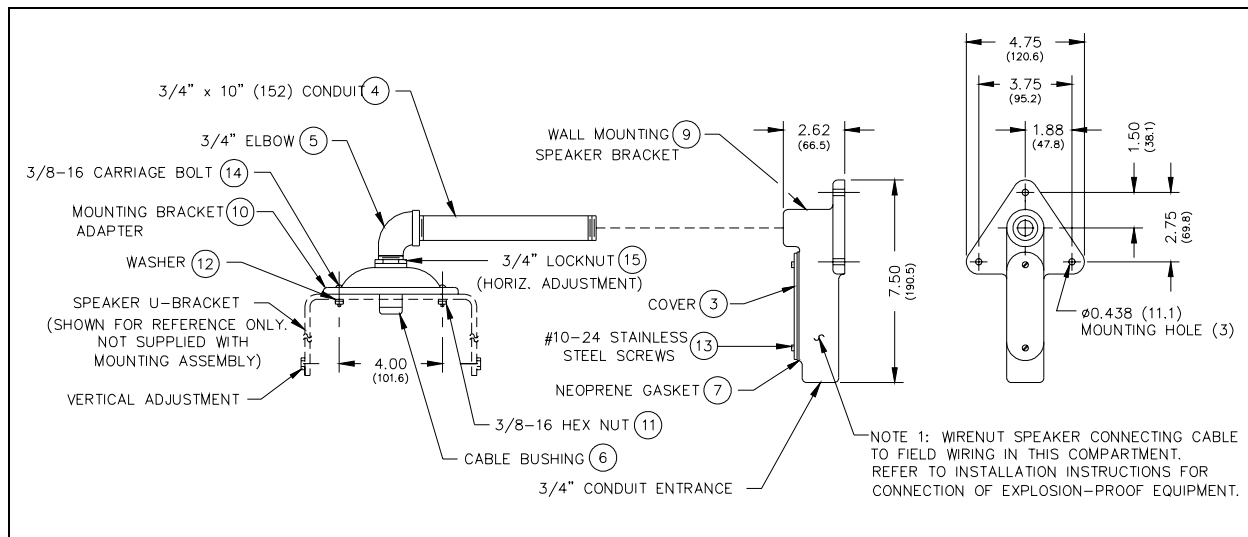

Figure 1. Speaker Mounting Details
Refer to Figure 1 for the location of the items with ID numbers.
8. Tighten the cable bushing nut. See Note 1 in Figure 1.